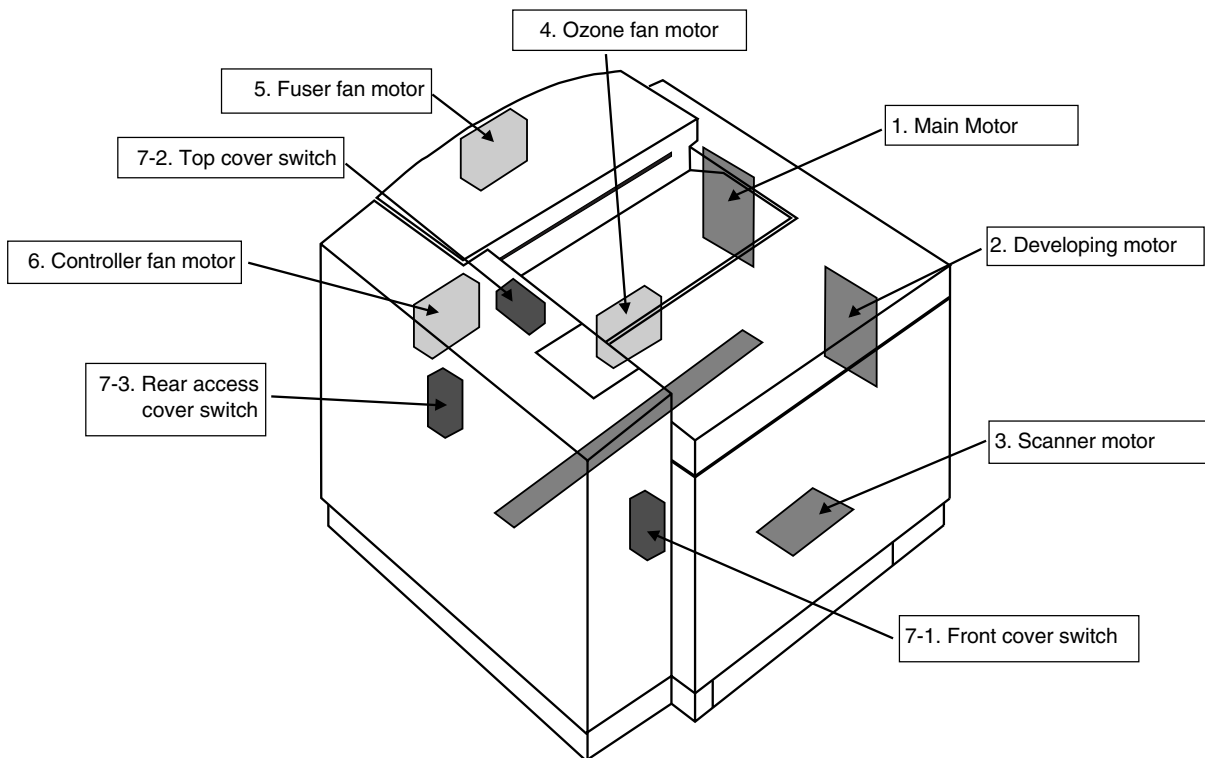

Fig. 4-30
(2) Motors (Refer to Fig.4-30.)